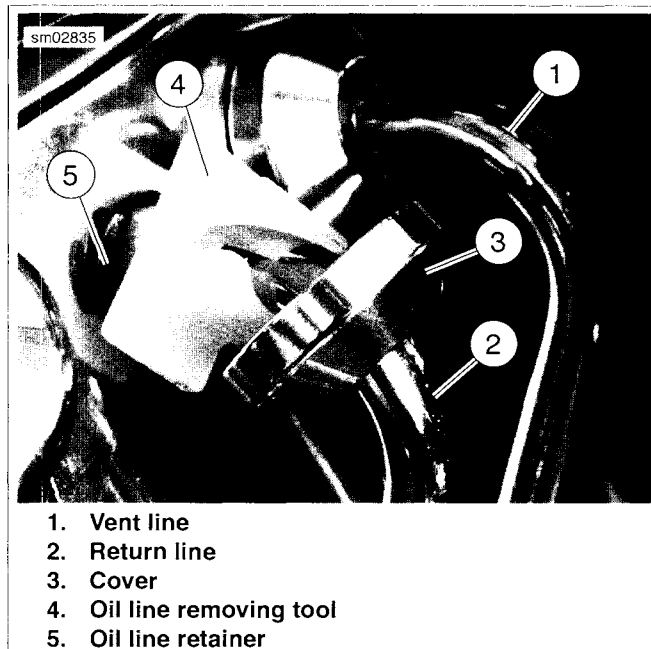

Figure 3-169. Line Cover
13. Cut lower drain hose clamp (2) from frame.
14. Cut clamp (7) from either side of oil feed hose (8).
16. See Figure 3-169. Detach vent (1) and return (2) oil lines at front of tank using OIL LINE REMOVING TOOL (Part No. HD-44455).
- a. Slide cover (3) away from oil line.
- b. Insert tool (4) inside retainer (5).
- c. Pull oil line straight out from tank leaving oil line retainer (5) inside tank.
2. Install two bolts (25) from back side of tank.
3. Install **new** clamp (7) to attach oil feed hose (8) to oil tank.
6. Install **new** clamp (2) over oil drain line and install drain line.
8. See Figure 3-169. Connect vent and return lines to tank. No tools are necessary for this step. Insert lines straight into fittings without digging or gouging o-rings. Remove any labels used to identify lines during removal process.